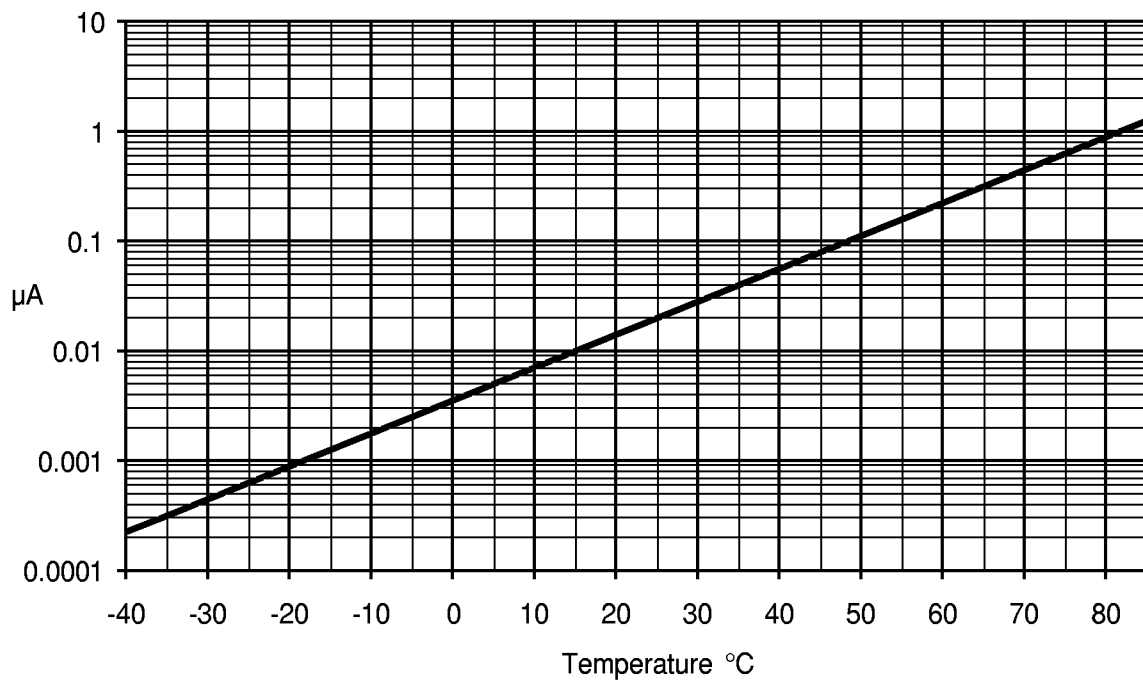

Figure 19: Typical 'Zero-Power' I_{DD} vs. Temperature ($V_{DD} = 5.0V$)
2. RD, MODE, RXCLK inputs at V_{SS} , ZP input at V_{DD} . See Figure 19.